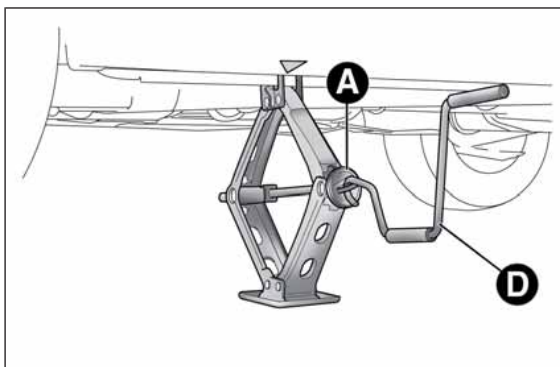
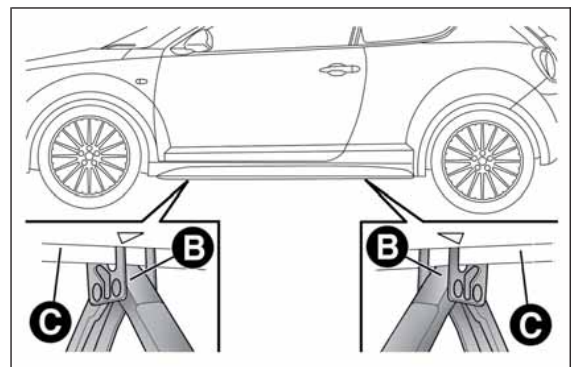

fig. 119
fig. 120
- operate the device A fig. 119 so as to extend the jack, until the upper part B fig. 120 is inserted correctly inside the side member C;
- fit handle D fig. 119 into the housing in device A, operate the jack and raise the car until the wheel is a few centimetres from the ground;
- operate the jack handle D fig. 119 to lower the vehicle. Then extract the jack;